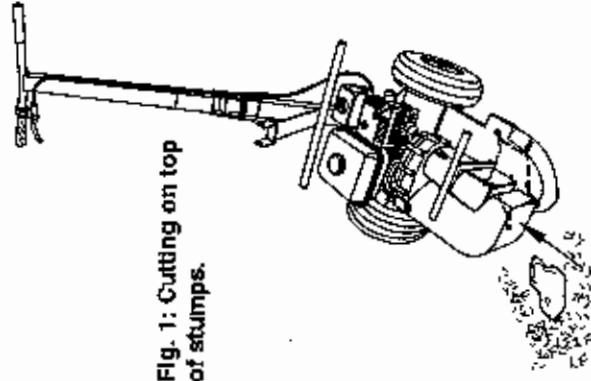
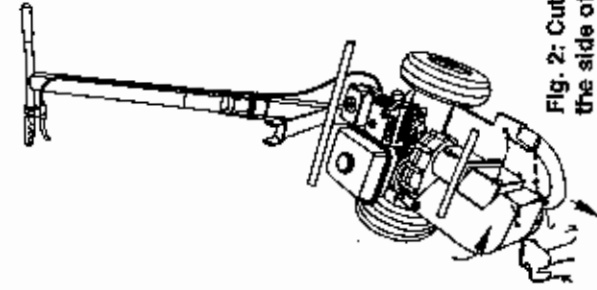

Fig. 1: Cutting on top of stumps.
Fig. 2: Cutting into the side of stumps.
5. You may now cut on top of stumps, (Fig. 1) and into the side of stumps, to remove them. (Fig. 2)